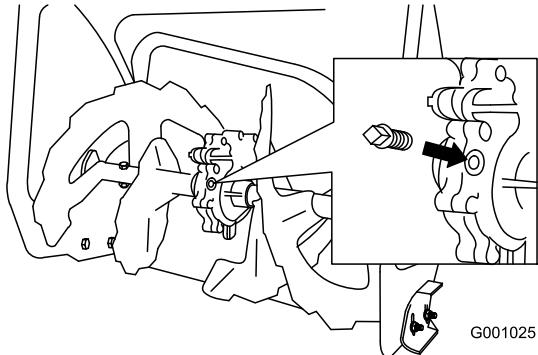

Figure 52
2. Clean the area around the pipe plug (Figure 52).